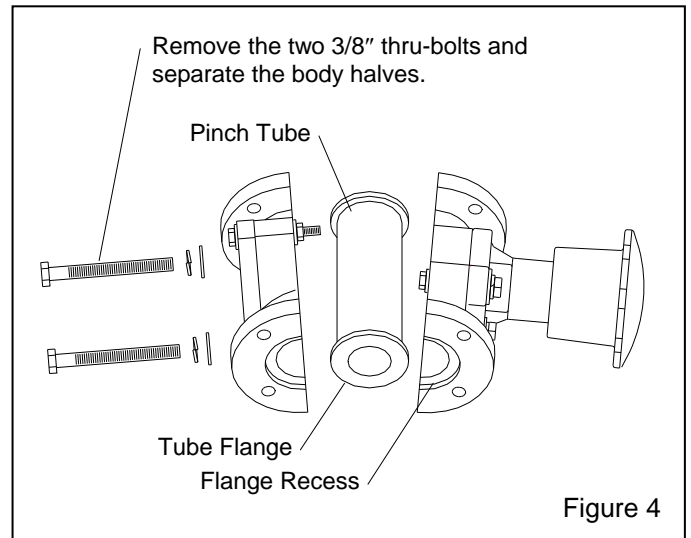

Figure 4
4.2.5 Separate the two body halves, as shown in Figure 4, by removing the two 3/8" x 4" bolts.